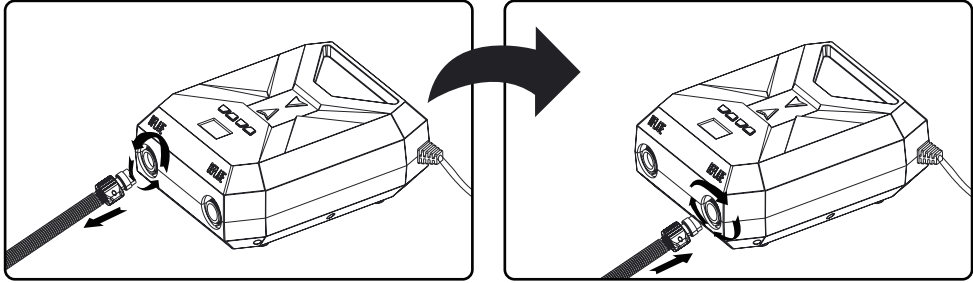

FIG 3
- Remove the hose from the inflation port on the pump, and connect to the deflation outlet and turn clockwise to lock into position. (FIG 3).